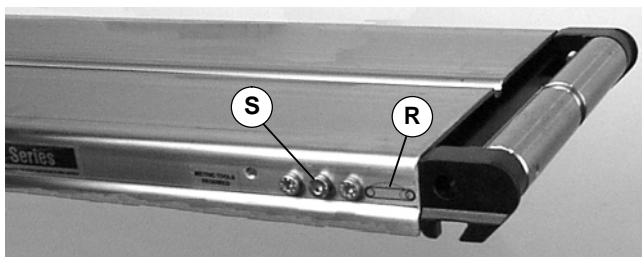
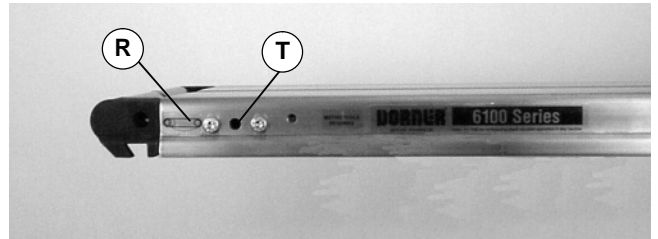
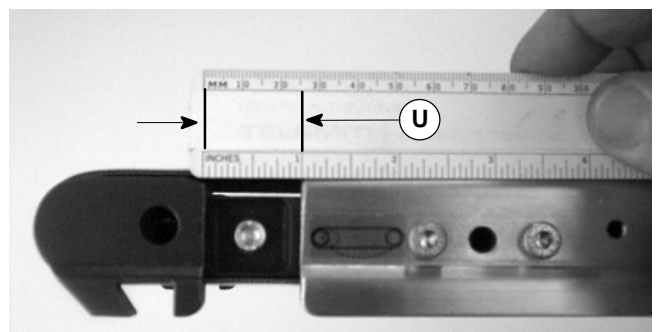

Figure 5
Figure 6
Figure 9
2. On tension end of the conveyor identified with  label (R of Figures 5 & 6), loosen screw (S of Figure 5). Rotate pinion gear (T of Figure 6) clockwise until headplate shoulder contacts conveyor frame.
6. Rotate pinion gear (T of Figure 6) counter-clockwise to a distance of 25 mm (U of Figure 9).
7. Tighten lock screw (S of Figure 5) to 4.5 Nm.